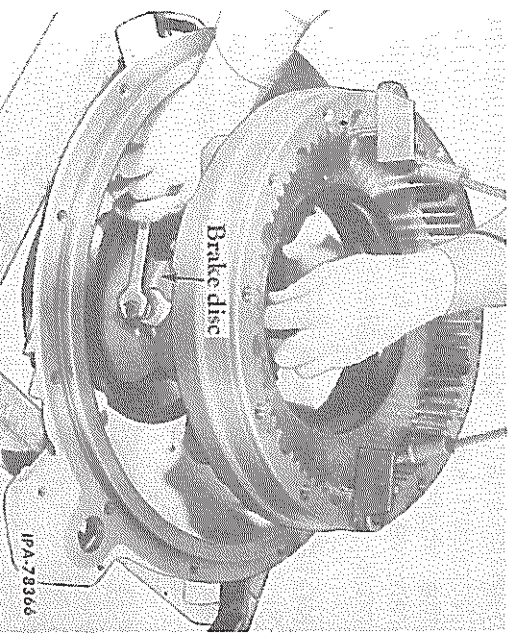

FIG. 7 — Removing the Brake Disc Lock Screw
4. Attach a hoist by inserting two capscrews (approximately 4-1/4 inches in length) in the drive ring mounting holes and secure with nuts. Lift the drive ring until there is sufficient clearance to loosen the brake disc from the bearing carrier (Fig. 7).